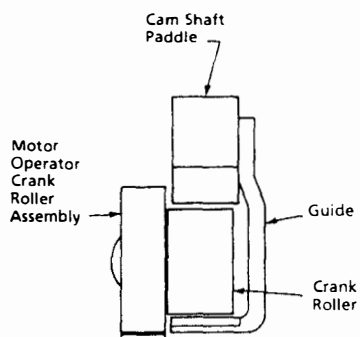
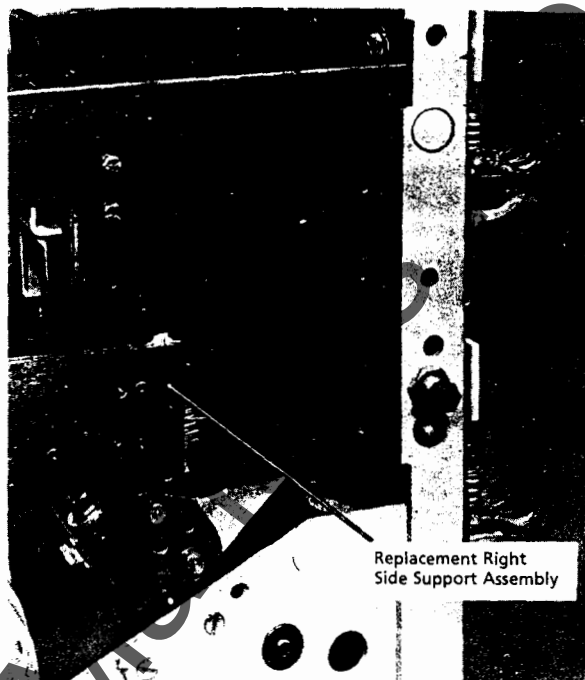
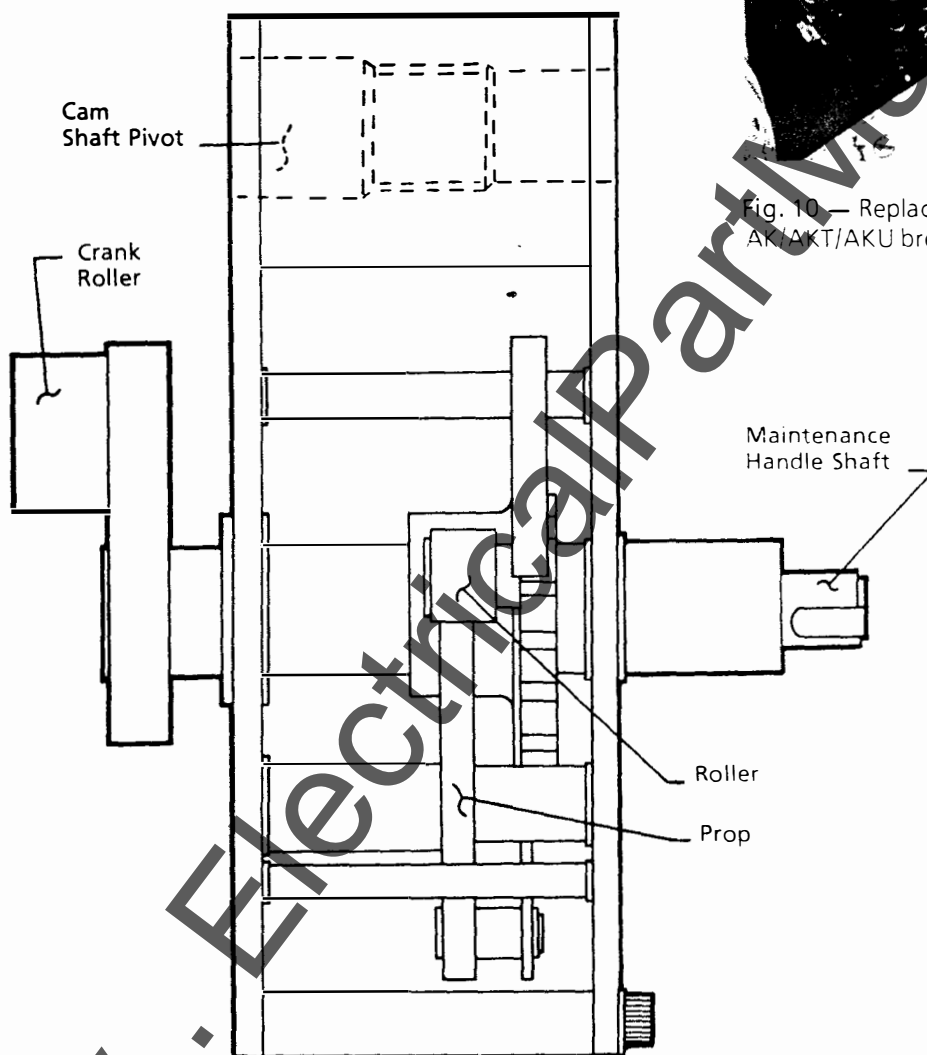

Fig. 8 — Engagement of the motor operator crank roller with the cam shaft paddle.
Fig. 10 — Replacement side support installed on AK/AKT/AKU breakers - AKD 5 equipment only.
Fig. 9 — Motor operator unit
3. Install the motor operator assembly and spring discharge interlock mechanism to the front frame. Refer to Fig. 7. The necessary hardware and spacers are provided. The motor operator crank roller must engage with the guide on the cam shaft paddle, refer to Fig. 8. Also refer to Fig. 10 and 13 in GEK 7303. The cam shaft must engage with the motor operator as it did with the old gear reducer unit, refer to Fig. 9.
6. When all the above conversion steps are completed, the breaker frames can be reassembled. If the breaker being converted is on AK/AKT/AKU 50 used in AKD 5 equipment, replace the right side support with the support assembly provided. Refer to Fig. 10.
7. Remove the safety pin by placing your maintenance handle on the shaft which extends from the motor operator unit and charge the closing spring until the motor operator roller engages with the motor operator prop, refer to Fig. 9. Remove the safety pin. Close the breaker by depressing the spring discharge lever, which removes the prop from the roller. Open the contacts by tripping the breaker.
4. Install the motor operator and spring discharge interlock mechanism to the front frame. Refer to Figure 7. The necessary hardware and spacers are provided. The motor operator crank roller must engage with the guide on the cam shaft paddle, as shown in Figure 8. The cam shaft must engage with the motor operator as it did with the old gear reducer unit, refer to Fig. 9.
7. When all the above conversion steps are completed the breaker frames can be reassembled. If the breaker being converted is on AK/AKT/AKU 50 used in AKD-5 equipment, replace the right side support with the support assembly provided. Refer to Fig. 10.
8. Remove the safety pin by placing your maintenance handle on the shaft which extends from the motor operator unit and charge the closing spring until the motor operator roller engages with the motor operator prop, refer to Figure 9. Remove the safety pin. Close the breaker by depressing the spring discharge lever, which removes the prop from the roller. Open the contacts by tripping the breaker.
The closing signal energizes the new X1 relay through the existing relay and auxiliary switch contacts. The motor is then energized through the X1 and G contacts. The closing spring is charged until it activates the motor cut off unit, opening the G contacts and stopping the motor. The motor cut off unit also closes the F contacts one of which energizes the closing solenoid through the X1 contacts. The closing solenoid through its linkage removes the prop from the roller (see Fig. 9) discharging the closing spring, closing the breaker.